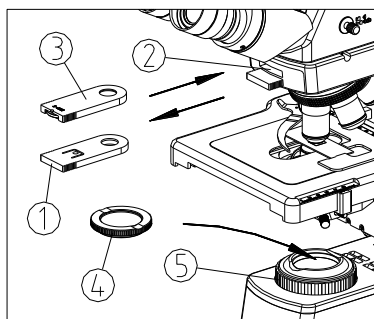

Fig. 26
(1) Unplug the dust-cover ① from the socket ② of front body, and insert the 360° rotatable analyzer ③ into the socket ②. (See Fig. 26)
(2) Put the polarizer ④ into the condenser ⑤ groove.
(3) Rotate the 360° rotatable analyzer ③ can start simple polarizing observation.